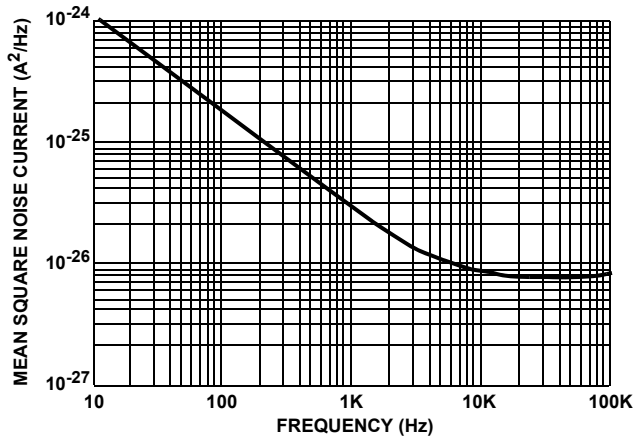

FIGURE 8. HA-4741 INPUT NOISE CURRENT
4. Obtain the value of $4KTR_G$ from Figure 8, and enter it on line (c) of the table. This is constant for all frequencies. The $4KTR_G$ value must be adjusted for temperatures other than normal room temperature.
Values are selected from the data sheet and Figure 8 to fill in the table as shown below. An R_G of $30k\Omega$ was selected.